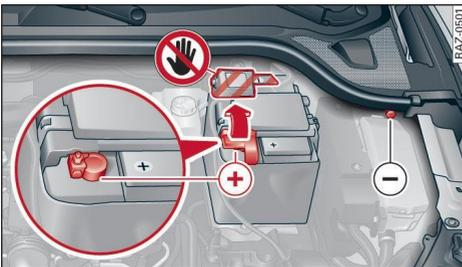

Fig. 142 Engine compartment with battery: Terminals for battery charger or jump leads
- ▶ Applies to vehicles with battery in engine compartment: Open the cap on the positive terminal ⇒ Fig. 142.